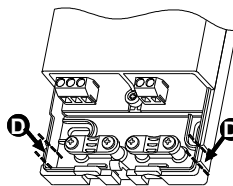

Fig. 4
**Side cable entry:** With suitable pliers, remove the plastic teeth, as indicated by arrows in D Fig. 4.